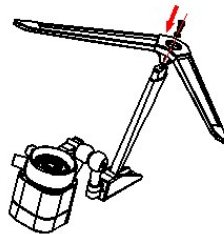

Figure 2
- 2) Take out the tripod from the box and lock the support column on the tripod with screws and washers, as shown in Figure 2.